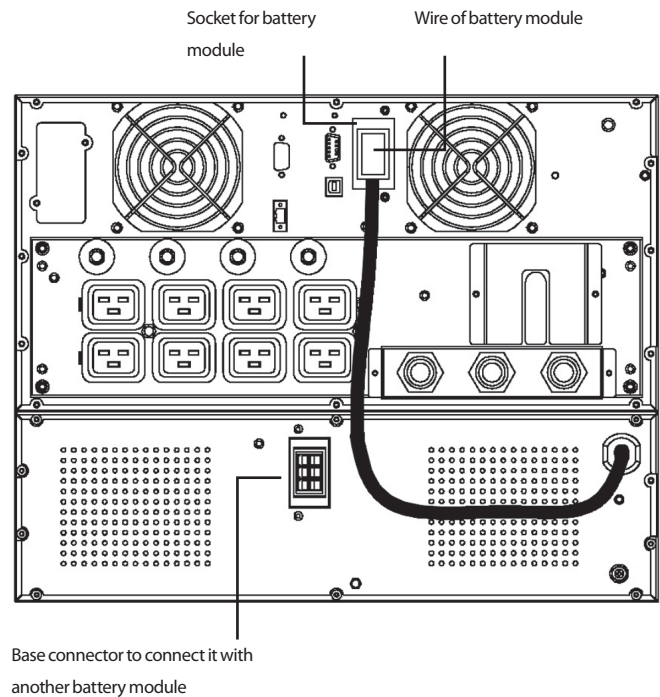

Fig. 11. Battery module connection for 8 and 10 kVA equipments.
8 to 10 kVA models, the connection with battery modules for extended back up time, it is done through a connector located in the rear side of the equipment (see figure 11).
- For 8 and 10 kVA UPSs with the battery module, proceed as follows, but reading section 4.3.4 previously (see figure 11):
- Regarding the connections of the UPS with the battery module in models of 8 and 10 kVA, make the following steps, but reading section 4.3.4 previously (see figure 11):